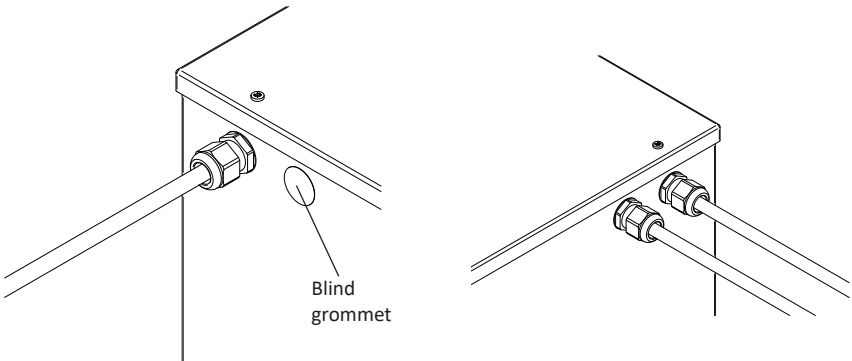

Fig. 13
- 4) Re-insert connector into the correct location on the control board and route the cable to the back of the Matrix Maxi and exit the cabinet via one of the 20 mm holes and a suitable cable retention and sealing system to either the left or right hand side. Blank off the remaining unused cabinet holes with the blind grommets supplied. See Fig. 13.